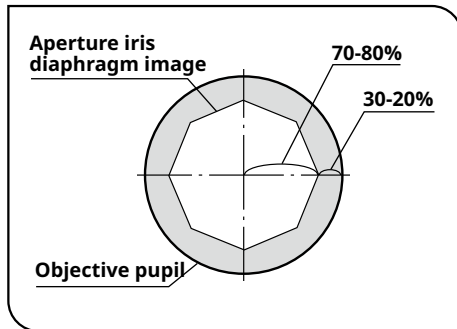

Fig. 1
- As microscopic specimens are usually low in contrast, reducing the diaphragm opening to 70% or 80% of the objective's N.A. will generally provide an image of acceptable quality. To check the opening, after completing focus adjustment, remove one of the eyepiece lenses and look into the empty eyepiece sleeve. As you stop down the aperture iris diaphragm, the iris diaphragm image can be seen in the objective pupil. (Fig. 1)